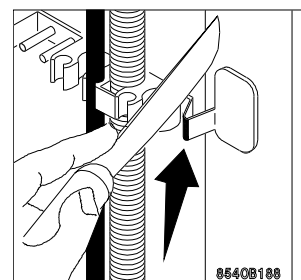

Fig 6
- If you want to keep the alignment of your appliance with the adjacent cupboards, you have the possibility to cut the crossbar holding the hoses located at the back of your washing machine (fig. 6).